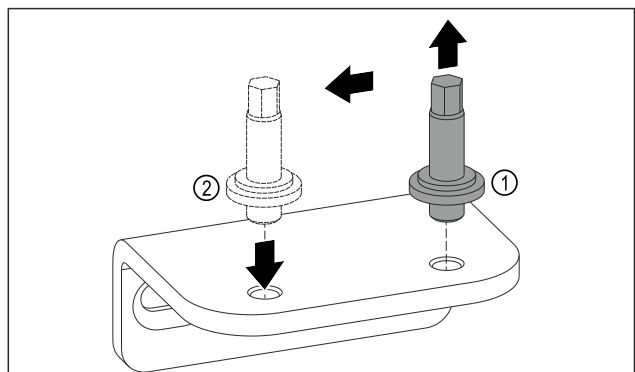

Fig. 11
- ▶ Unscrew the bolt of the lower swap bearing block with an Allen key AF5. Fig. 11 (1)
- ▶ Insert the bolt on the opposite side. Fig. 11 (2)